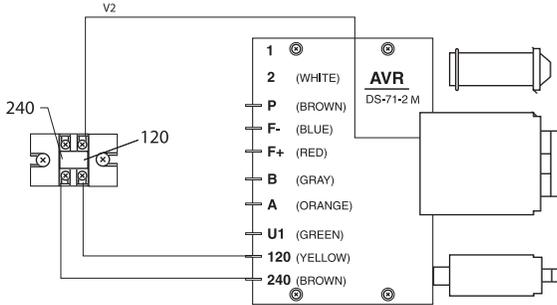

Figure 25: Control Terminal Board, 120 Volt Output
- a. 120 volt output can be selected by connecting the terminals of the control terminal board to 120 (Figure 25).